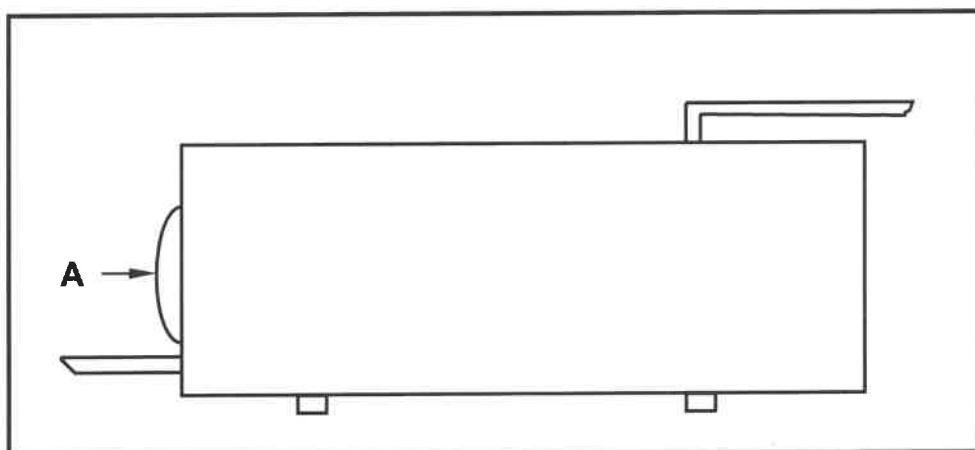

FIGURE 4.5
4.5 FIGURE 4.5 below shows an incomplete geyser.